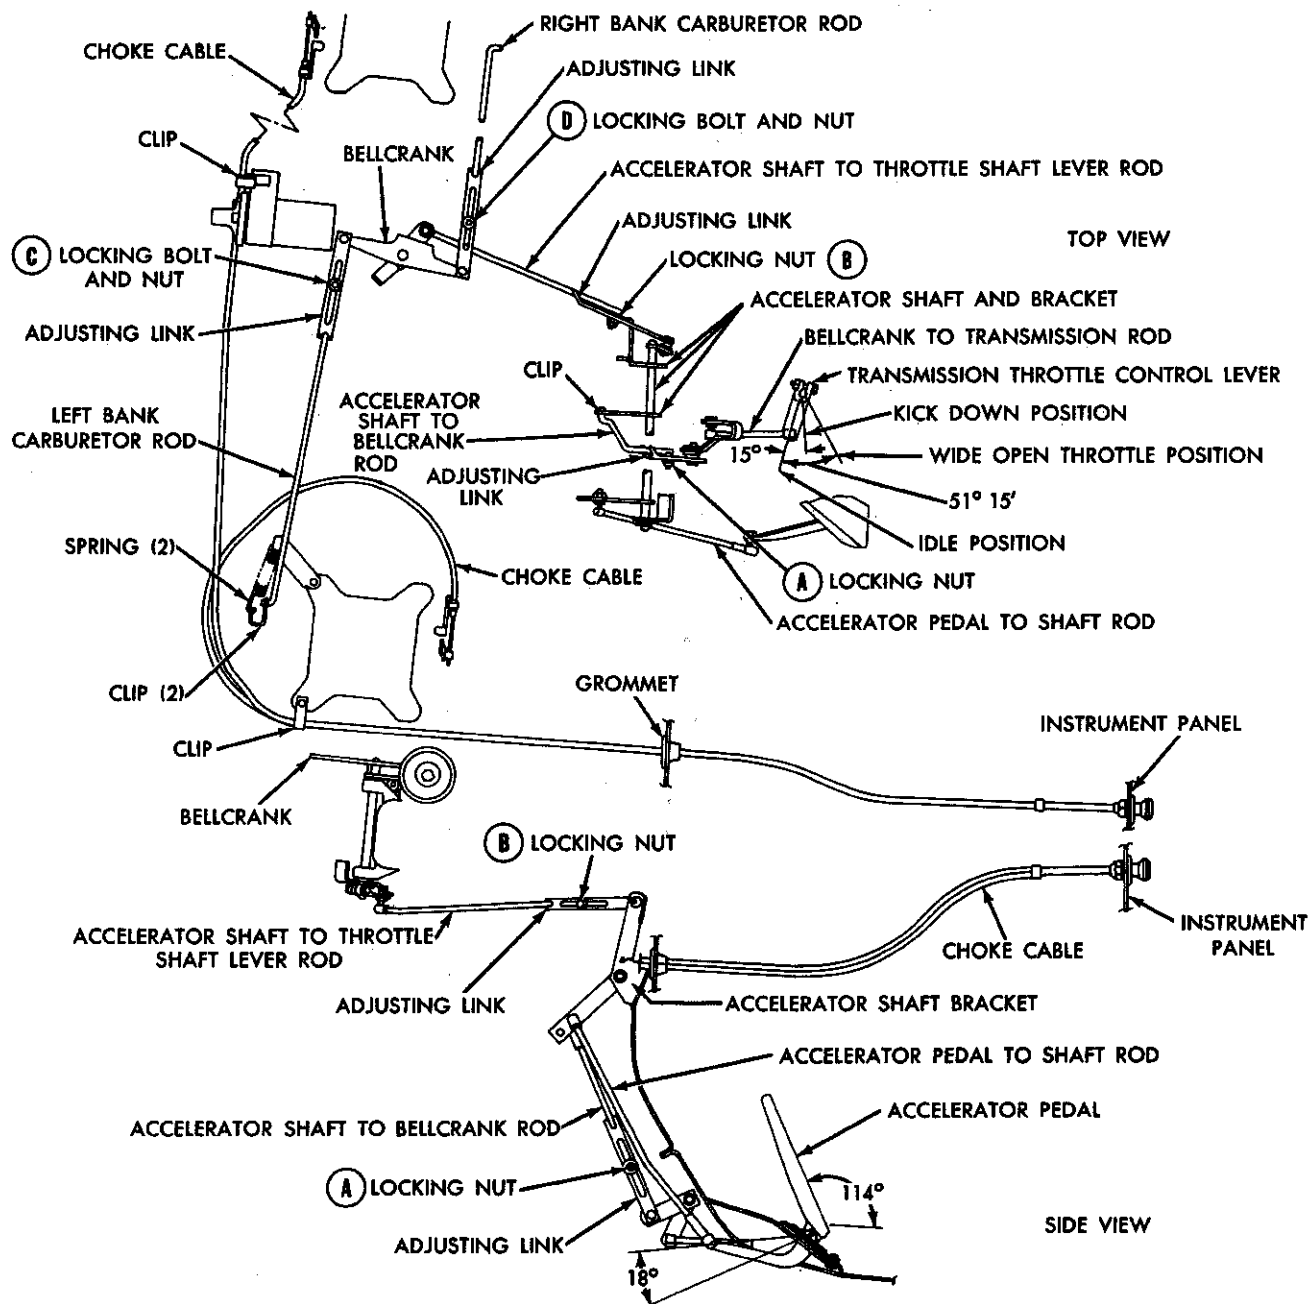

Fig. 25—Throttle Linkage Adjustment (C-300K)
(3) **Model 300 with "K" engine:** Refer to Figure 25. Loosen the locking nuts "A" and "B" (accelerator shaft to throttle shaft lever rod).